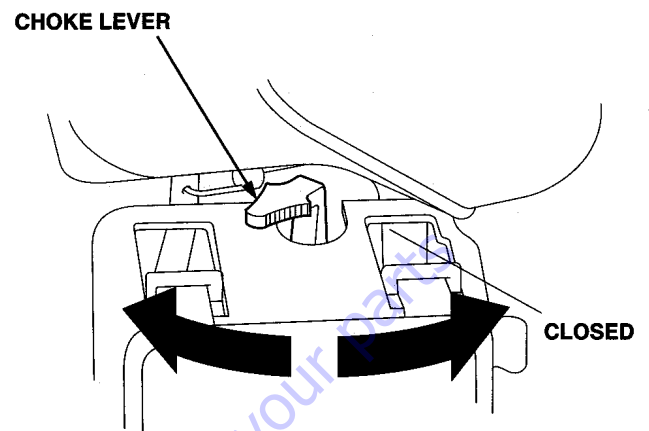

Figure 9. Engine Choke Lever (Closed)
2. If starting a **cold** engine, or if the **ambient temperature is cold**, place the choke lever in the **CLOSED** position (Figure 9).